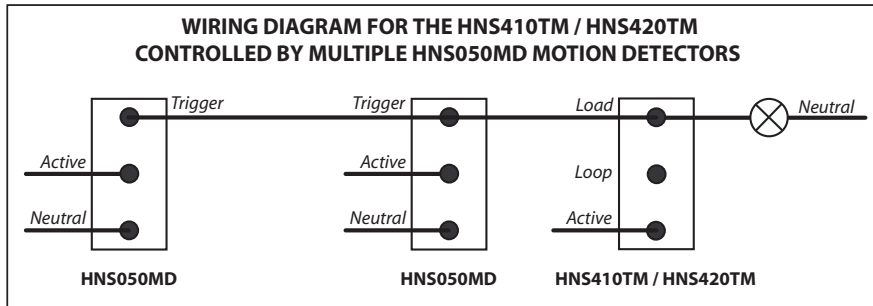

Figure 4
- Refer to Figure 4 and 5 for the different methods of connecting a timer with multiple HNS050MD.